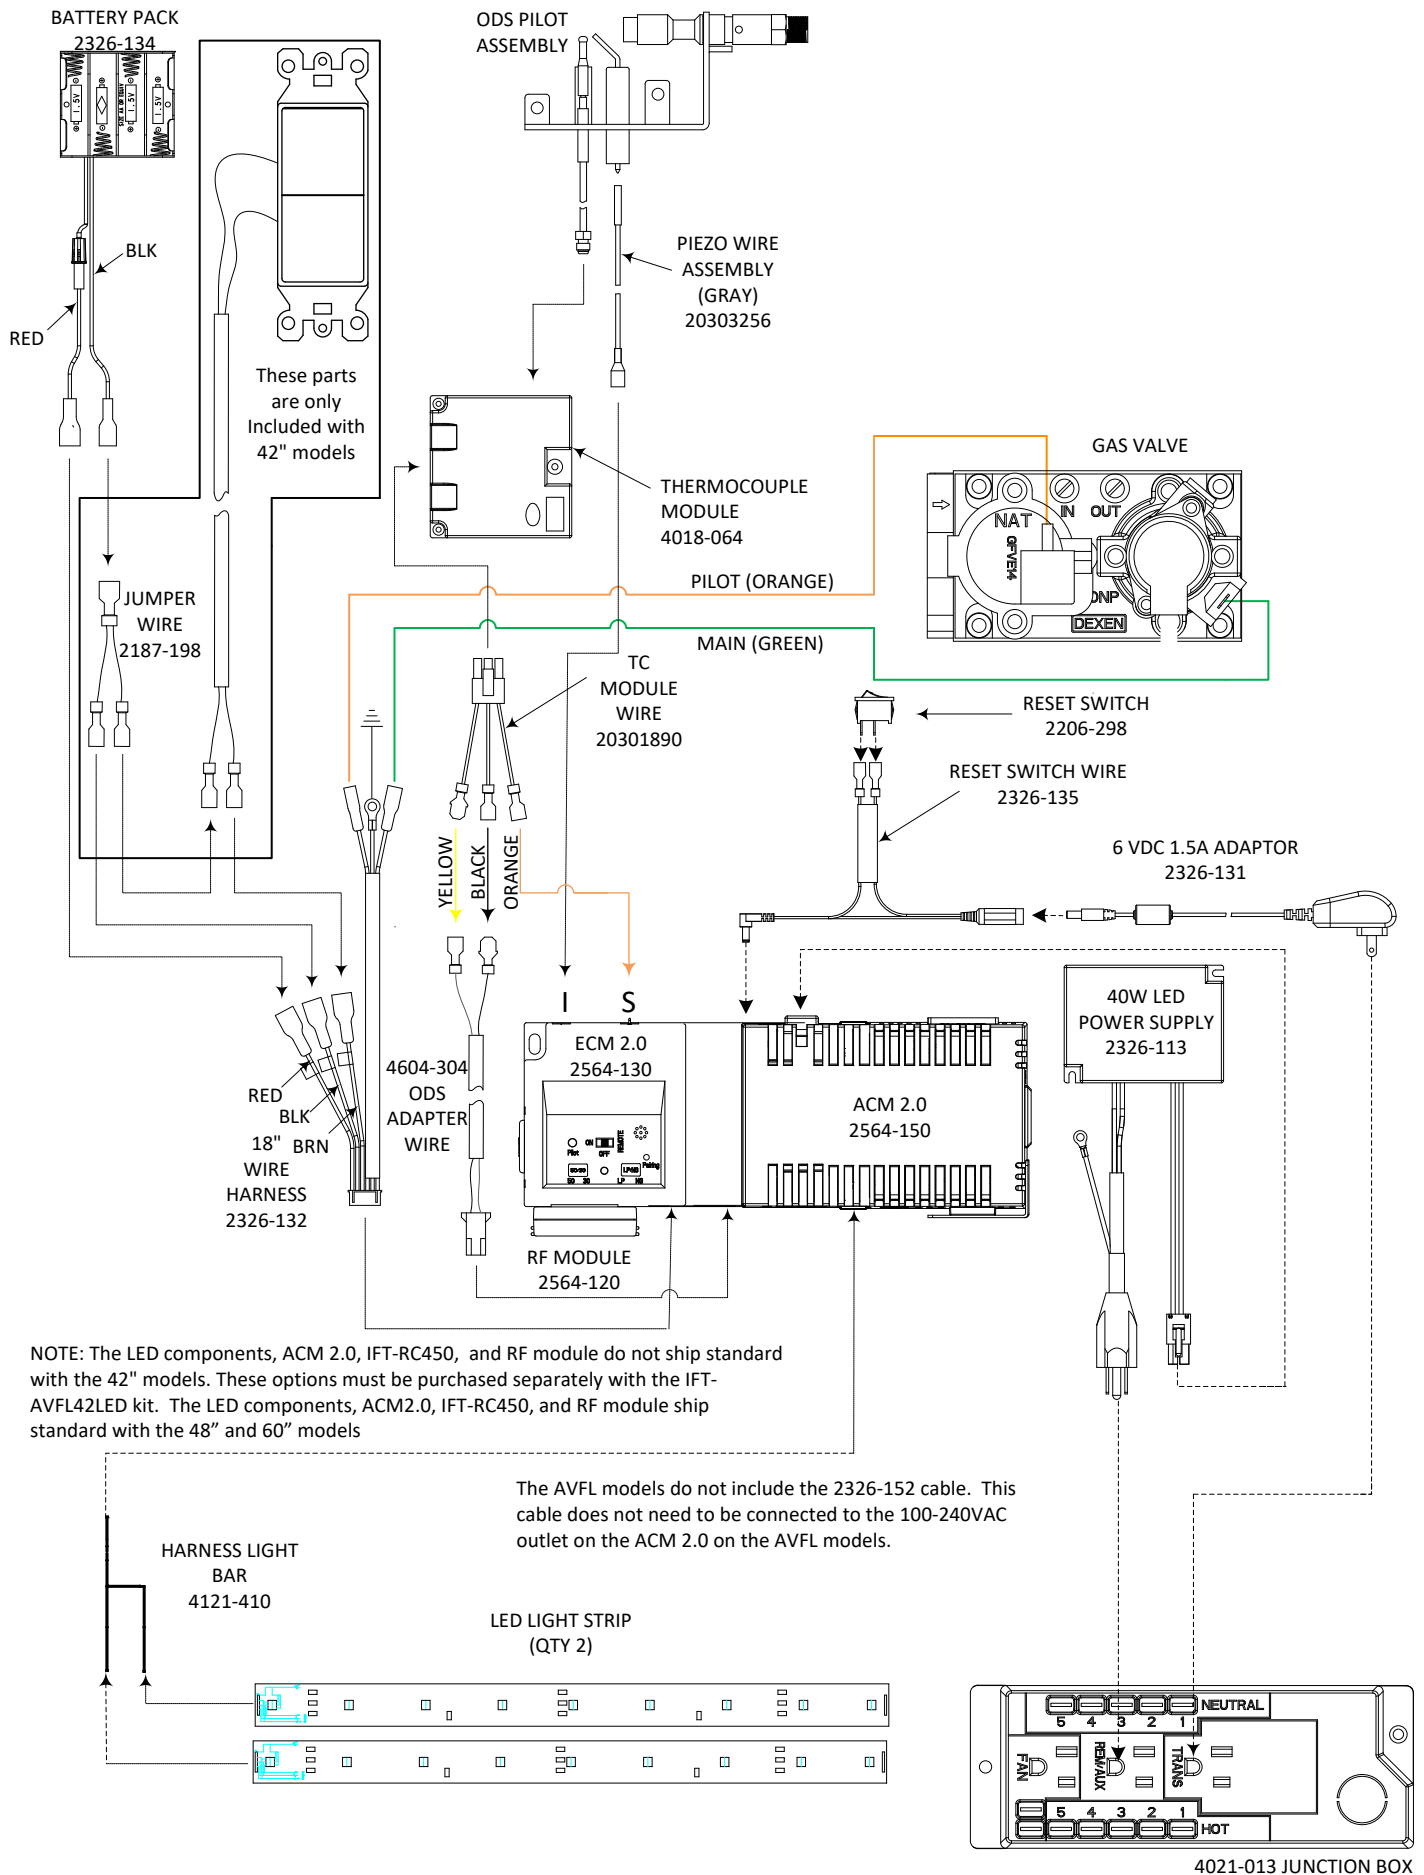

Figure 8
10. Install the RF module, and light bar harness. Plug in the LED power supply to the junction box and IFT 2.0 ACM. See wiring diagram (Figure 8).